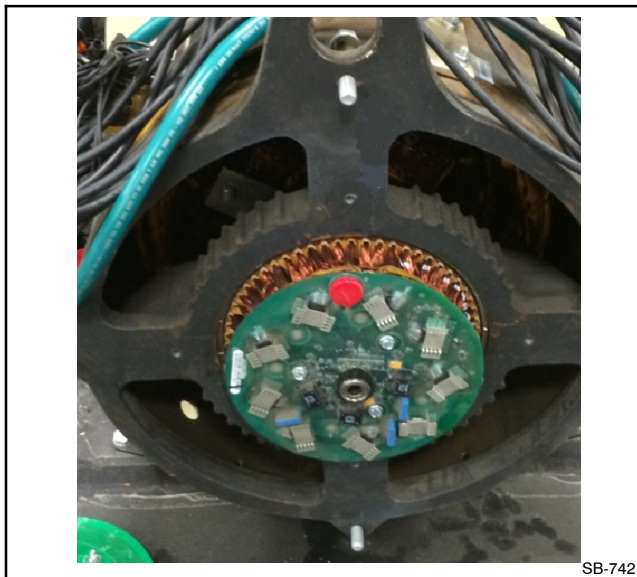

Figure 15 Mounting FRX Activator Board
- 4.6 Install the ball bearing (X-758-19) to the center retainer cup of the FRX activator board and secure using the spiral retaining spring (GM98940). See Figure 15.